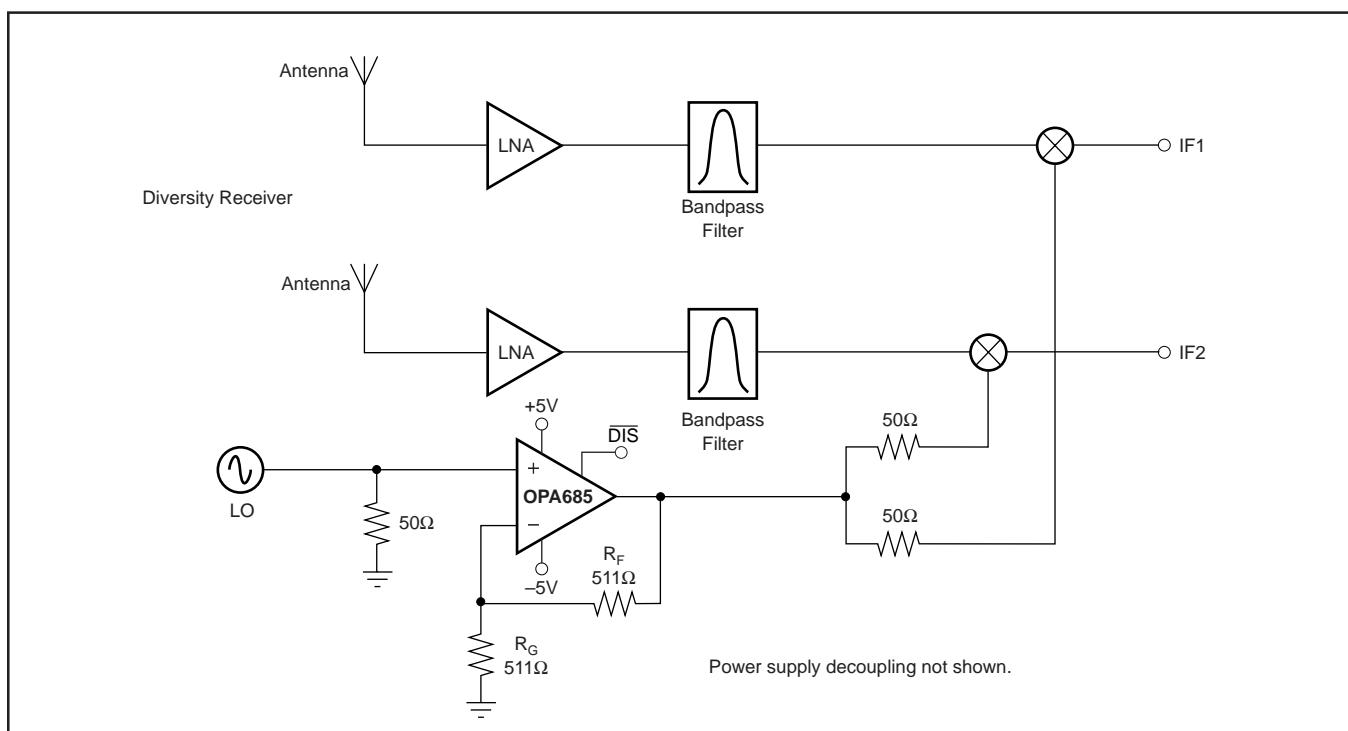

FIGURE 6. Dual Output LO Buffer.
The OPA685 may also be used to buffer the Local Oscillator (LO) from the mixer(s). Operating at a voltage gain of $+2$, the OPA685 will provide almost perfect load isolation for the LO with a net gain of 0dB to the mixer. Applications through 1GHz LOs may be considered, but best operation would be for LOs $< 500MHz$ at a gain of $+2$. Gain could also be easily provided by the OPA685 to drive higher power levels into the mixer. One unique option in using the OPA685 as an LO buffer is shown in Figure 6. Since the OPA685 can